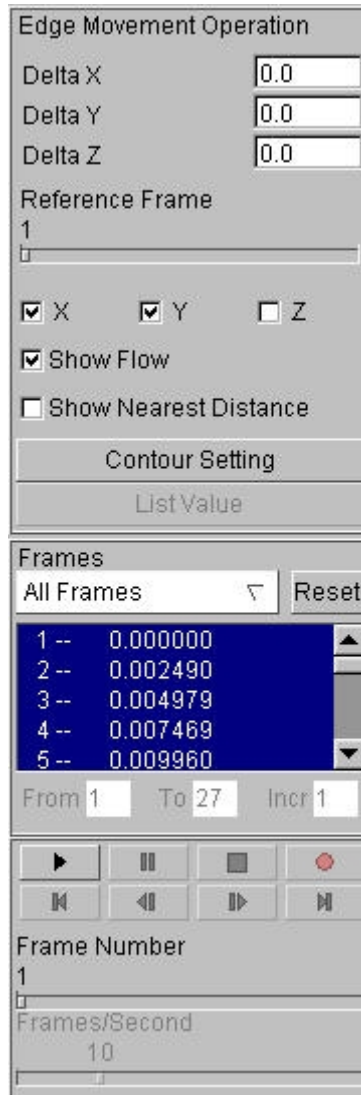
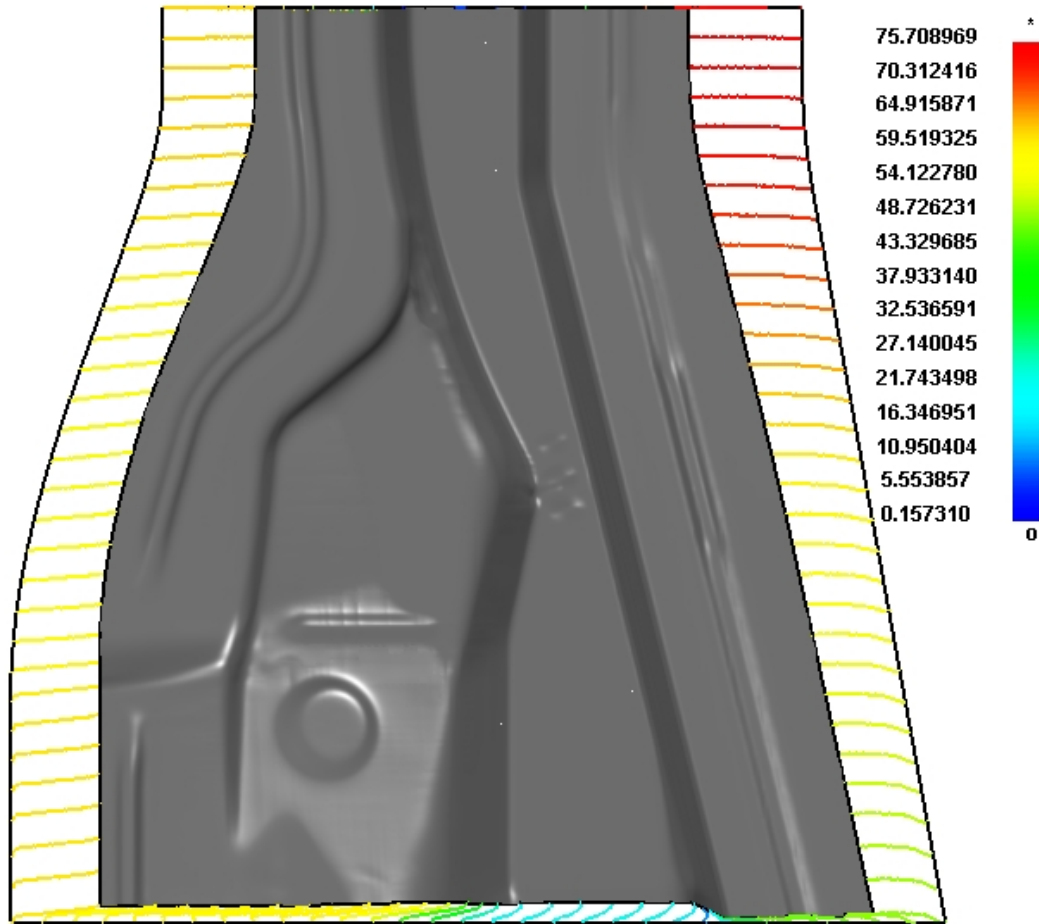

Figure 7.47 Edge Movement Control Window
Figure 7.48 Define Material Movement
This function enables the user to animate movement of the blank's outer edge in real time during forming. An arrow is drawn to show the movement (including X, Y, and Z directions) of the edge nodes. The contour bar, located on upper right corner of the graphic window, displays the corresponding contour value. The control window is shown as Figure 7.47. The highest contour value in the model is labeled with an asterisk (*) and the lowest one is labeled with zero (0) as shown in Figure 7.48. The default is the combination of X and Y-direction (i.e. the movement condition of material edge on the XY plane).